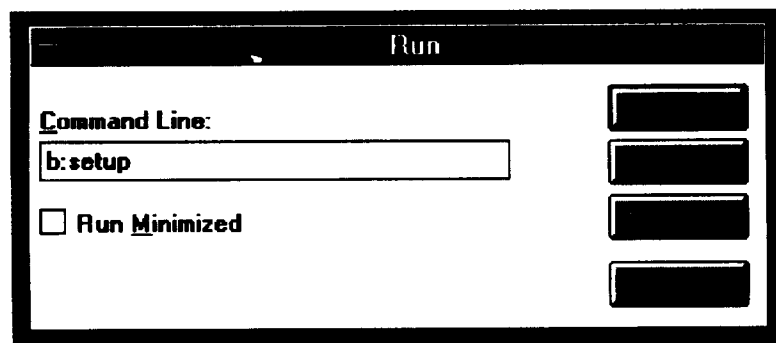

Figure 2.2-1. Run Command Line
- * 4 megabytes (MB) of random-access memory (RAM),
- * 5 megabytes (MB) of hard disk storage space.
- * From the **File** menu in either the **Program Manager** or **File Manager**, choose **Run** (A dialog box similar to the one shown in Figure 2.2-1.)